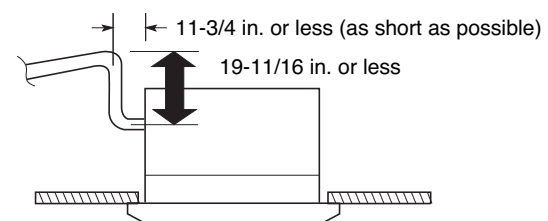

Fig. 3-9
- If it is necessary to increase the height of the drain pipe, the section directly after the connection port can be raised a maximum of 19-11/16 in. Do not raise it any higher than 19-11/16 in., as this could result in water leaks. (Fig. 3-9)